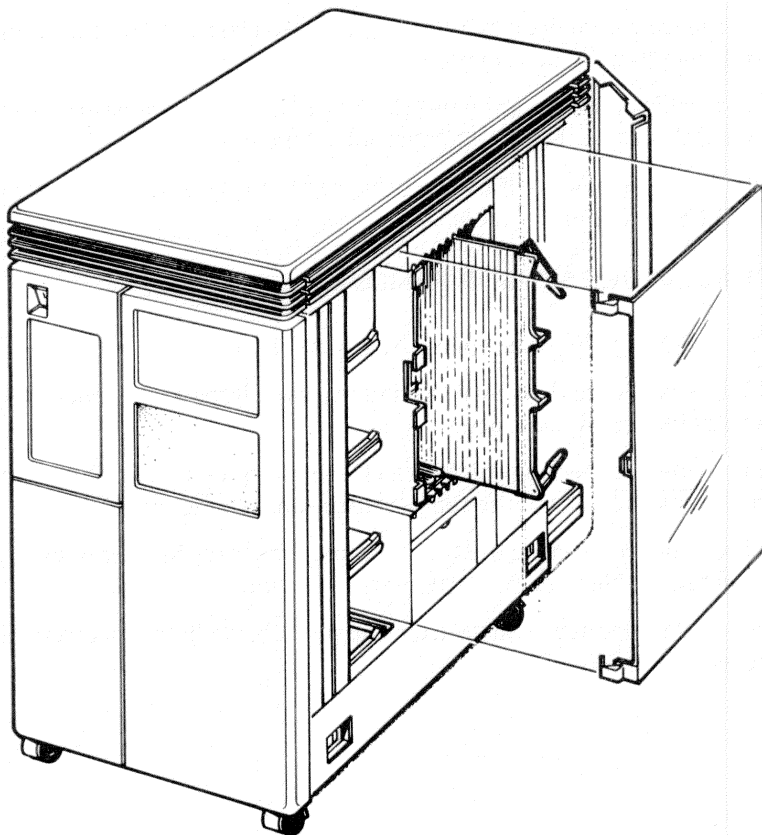

Figure 6-16 Module Removal
3. Slide the module partially out of the backplane. (Figure 6-16)